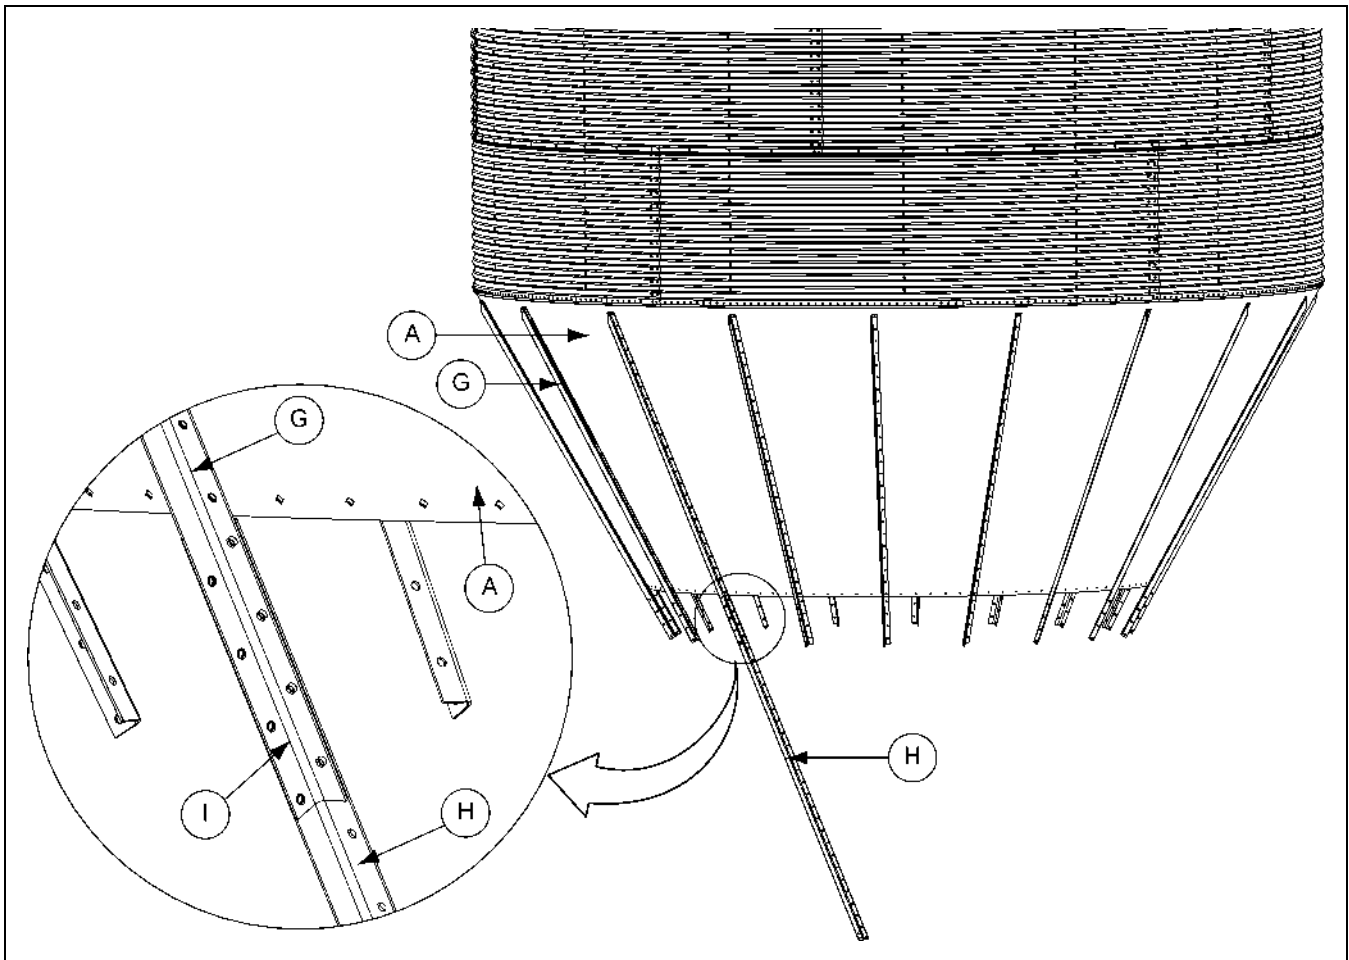

Figure 11E Upper and Lower Stiffener Angles Connection
1. Align the lower stiffener angle (H) to the upper stiffener angle (G) using the four (4) holes located on the side of the angles (I). (See Figure 11E.)